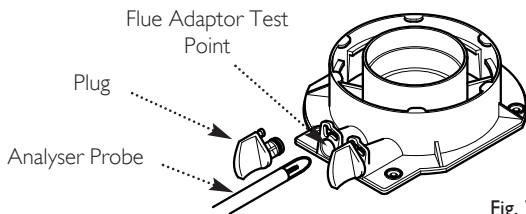

Fig. 73
7. Remove the plug from the flue sampling test point. Insert the analyser probe and allow sufficient time for the reading to settle (Fig. 73).